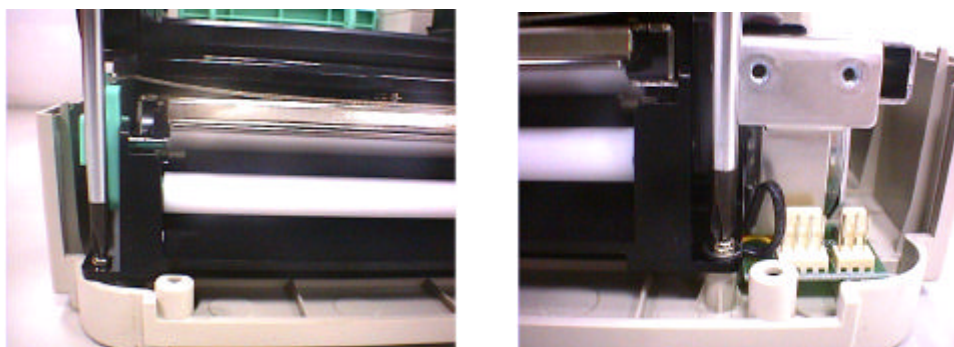

Fig. 3.17 Remove the screws in the lower left, lower right corners of the main mechanism.
6. Remove the peel-off sensor connector. (Cf. Fig. 3.17)